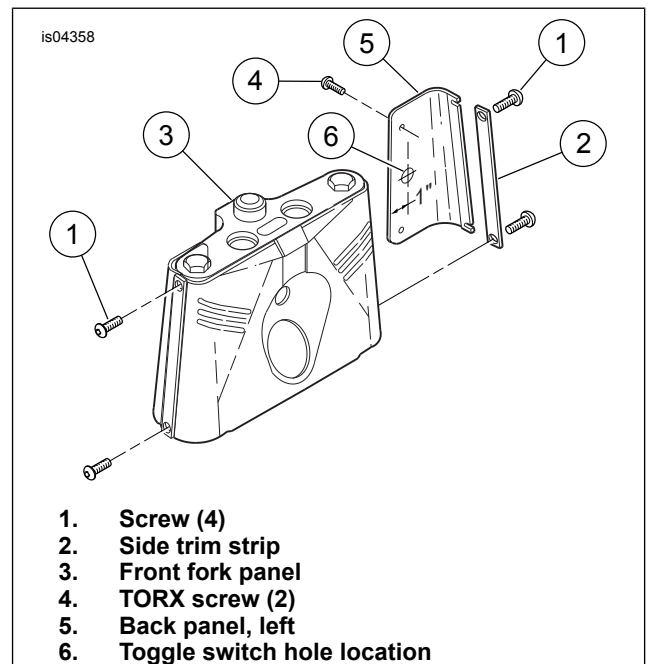
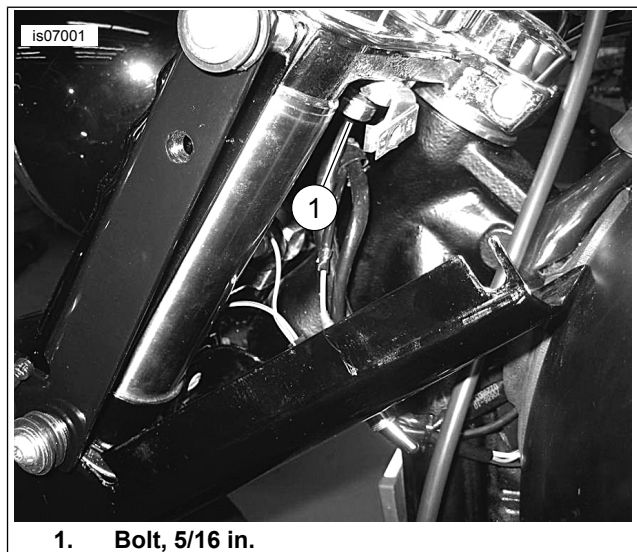
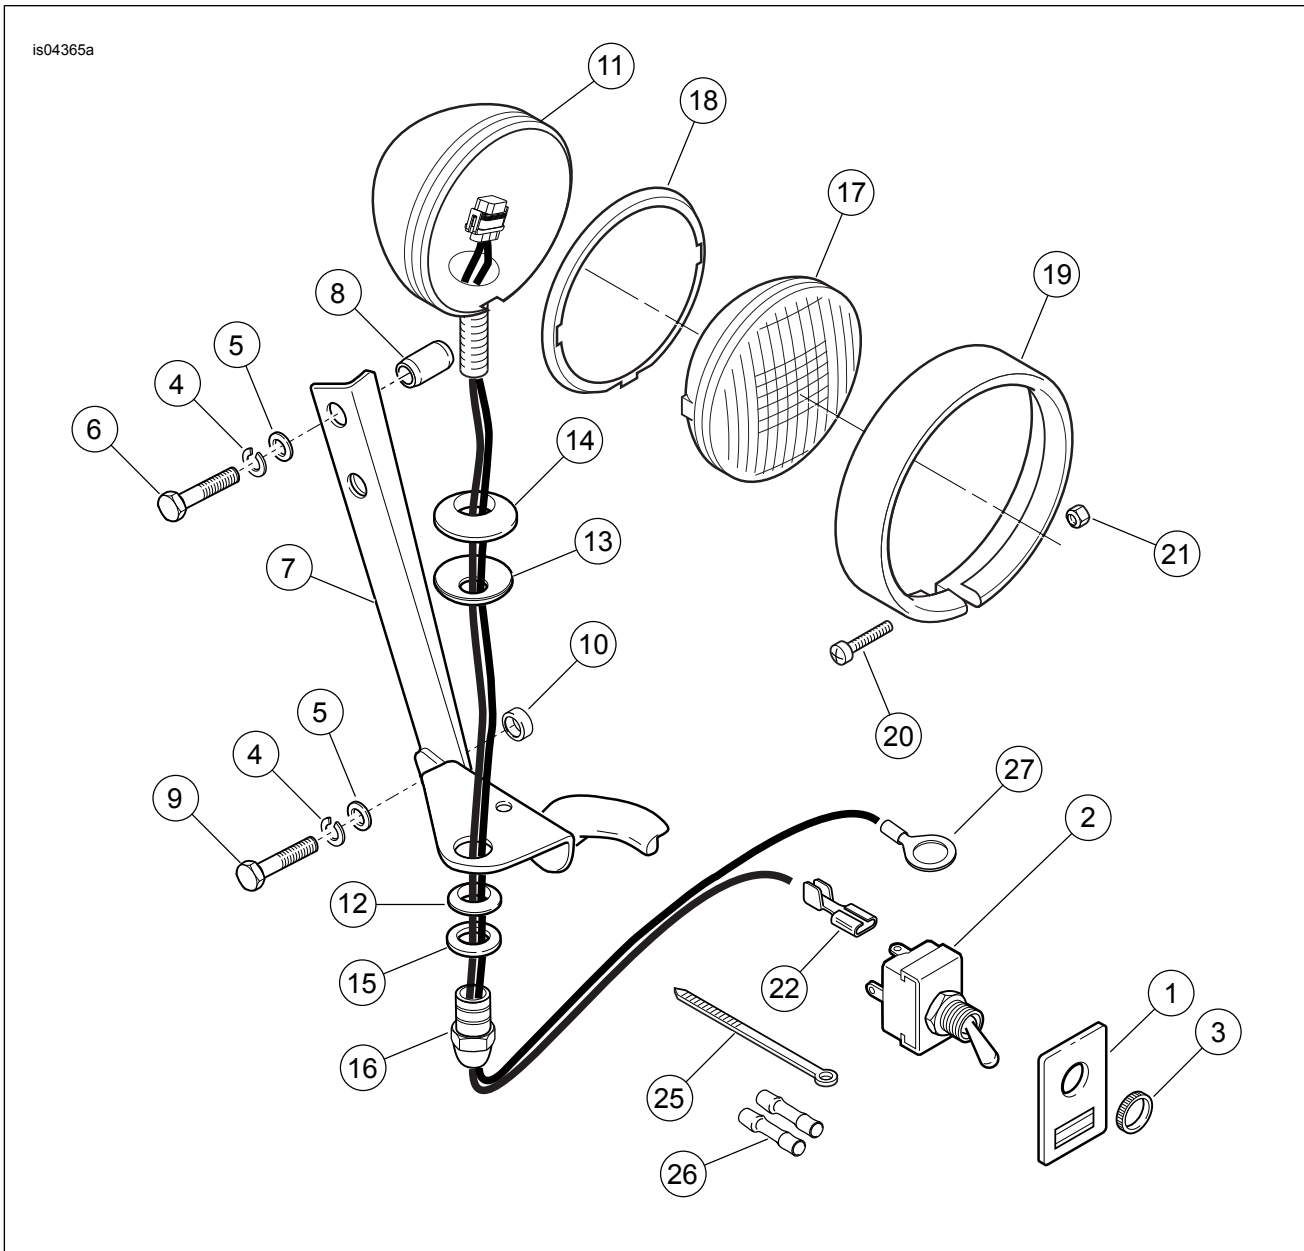

Figure 1. Toggle Switch Hole
Figure 4. 5/16 Inch Bolt for Ring Terminal Grounding
Figure 6. Service Parts: Auxiliary Light Kit
See Figure 6 and Table 1.
1. See Figure 1. Remove and discard two screws (1) and side trim strips (2) from each side of the fork trim panel (3).
2. Unfasten TORX[®] screws (4) and remove back panel (5) from front fork trim panel. Remove hole plug and discard.
3. See Figure 6. Attach adhesive label (1) around drilled hole (Figure 1, Item 6). Mount toggle switch (2) in hole using knurled nut (3). Set back panel aside for later wiring.
4. Place lockwasher (4) and washer (5) on two bolts (6). Insert bolts through upper holes in bracket (7) and through spacer (8). Thread into upper holes of fork bracket and through trim panel finger tight.
5. Place lockwasher (4) and washer (5) on two bolts (9). Insert bolts through lower holes in bracket (7) and through spacer (10). Thread into bottom holes of fork bracket and through trim panel finger tight.
- Attach auxiliary lamp housing (11) to bracket using hardware (12-16) in the sequence shown in Figure 6.
- See Figure 6. Remove tethered power lead from headlamp wires and attach connector (3) to remaining terminal on toggle switch (2).
- Crimp both black wires into one end of butt splice. Use a small section of wire cable (23), crimp into opposite end of butt splice. Crimp final end into ring terminal (27).
- See Figure 4. Use the 5/16 inch bolt that attaches upper bracket support for switch panel and grounds the ring terminal.
- See Figure 1. Attach left side panel (5) to front fork panel (3) under left side of auxiliary lamp bracket.
- Route wires so they are not pinched between the trim panel and fork bracket. Use cable straps (25) to secure wires to fork bracket and motorcycle frame.
6. See Figure 6. Install auxiliary lamps (17) and trim rings (19).